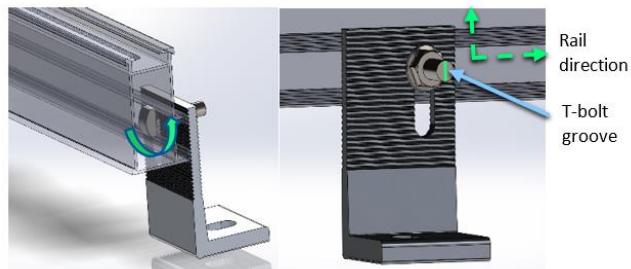

Figure 3 - T-bolt Engagement
STEP 2: Install Rails – Ensure that the groove on the end of the T-bolt is perpendicular to the rail direction. See Figure 3. Tighten to 12 ft-lbs.